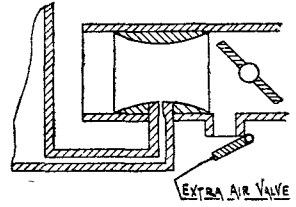

FIG. 5.—Extra air valve.
- (a) *Extra air.*—The simplest method is to fit an “extra-air valve” to the simple carburettor (fig. 5). The choke-tube and jet are of the correct sizes to produce a suitable mixture at fairly low speeds, and the tendency for the mixture to become richer as speed rises is counteracted by opening the extra air valve sufficiently to admit enough additional air to prevent the mixture becoming richer. It is usual to couple the extra air valve to the throttle, since engine speed rises as the throttle is opened; as the speed is also governed by the load upon the engine, for which this carburettor makes no allowance, this type can only give good results where there are fairly small variations in load. The Stuart Turner carburettor works on this principle.